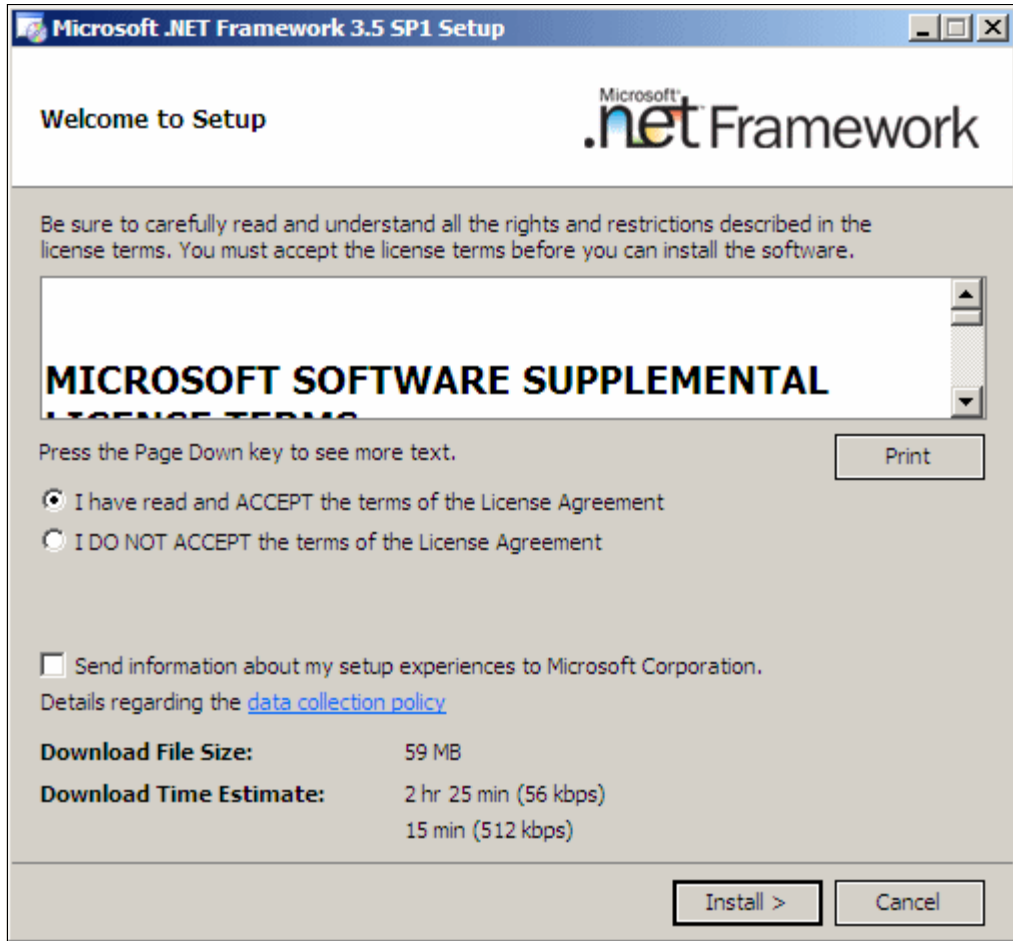

Figure 6-15 .NET Framework setup window
4. On the “Microsoft .NET Framework 3.5 SP1 Setup” panel (Figure 6-15), click the **I have read and ACCEPT the terms of the License Agreement** radio button to install .NET. Click **Install**.